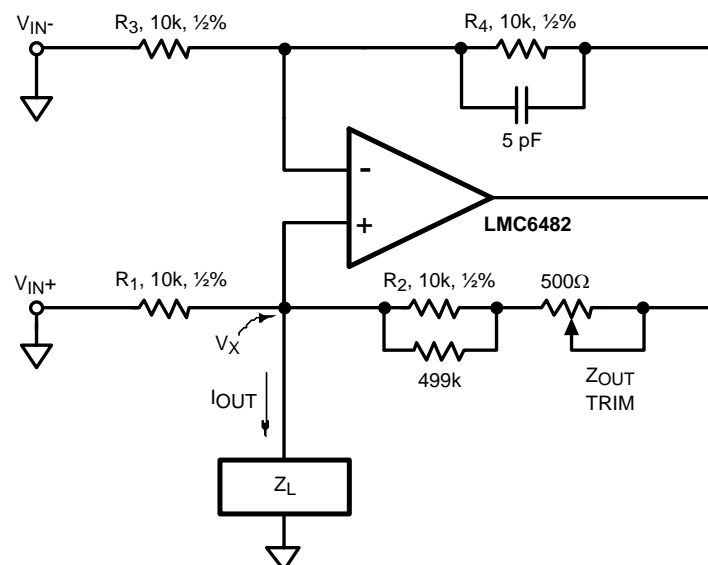
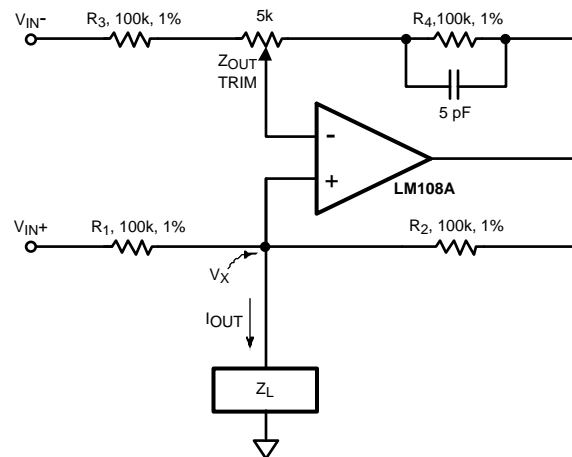
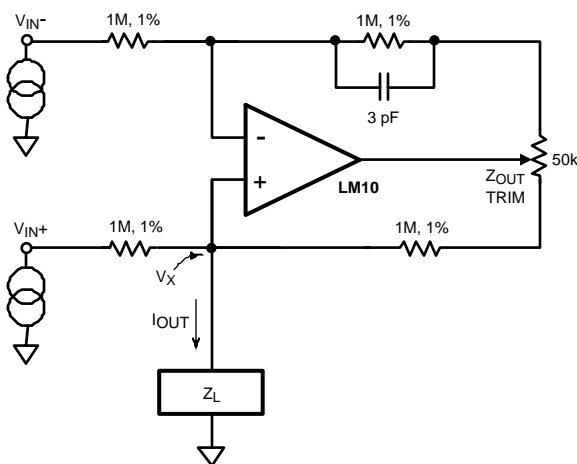

Figure 2. Basic Howland Current Pump with Trim of Z_{OUT}
Figure 3. Basic Howland Current Pump with Trim of Z_{OUT}
Figure 4. Basic Howland Current Pump with Trim of Z_{OUT}
Figure 2, Figure 3, and Figure 4 show ways to use a trim-pot to make the output impedance very high. Typically, using 1/2% resistors and one trim pot, you can trim the output impedance to be 5 ppm of I (full scale) per volt.
3. Add a trim-pot in series with one of the resistors, and add a compensating resistor of about half that size, on the opposite side, to let you trim the ratio up or down a little. Of course, if any pot can be adjusted, it can also be mis-adjusted.... Per Section 2, Figure 3 or Figure 4.